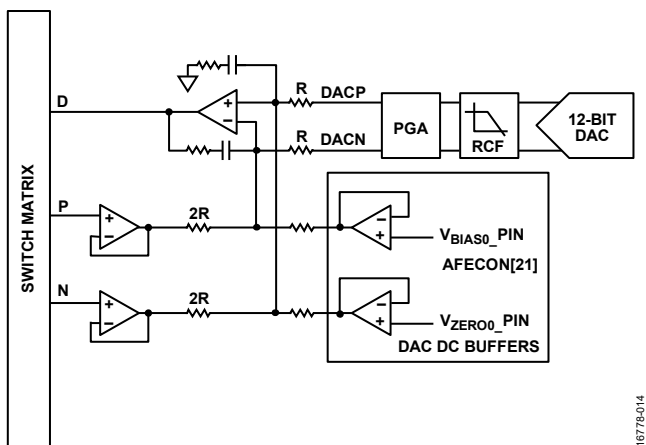

Figure 25. High Speed DAC Excitation Amplifier
Figure 25 illustrates the operation of the excitation amplifier and its connection to the switch matrix. There are four inputs to the excitation amplifier: DACP, DACN, positive (P), and negative (N). The high speed DAC is a differential output DAC where the positive and negative inputs feed directly to the excitation amplifier.
2. The DAC dc buffers must be enabled (AFECON, Bit 21 = 1). Figure 25 shows the connection of the dc buffers to the excitation amplifier. These buffers enable the low power DAC outputs to drive the required bias voltage to the excitation amplifier and the high speed TIA.